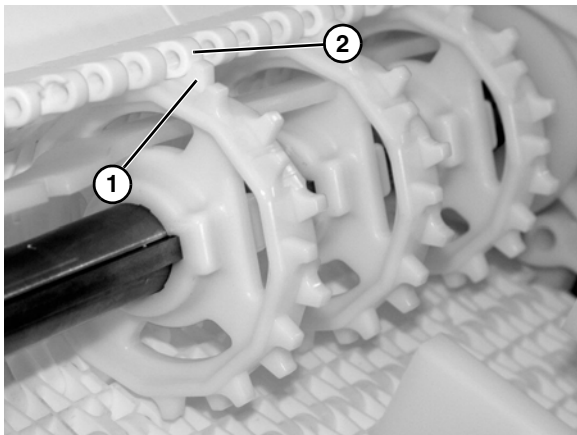

Figure 14
3. Wrap the belt around the drive end of the conveyor, making sure the sprocket teeth have engaged the belt, with concave teeth (**Figure 14, item 1**) mating with rounded section (**Figure 14, item 2**) of belt.